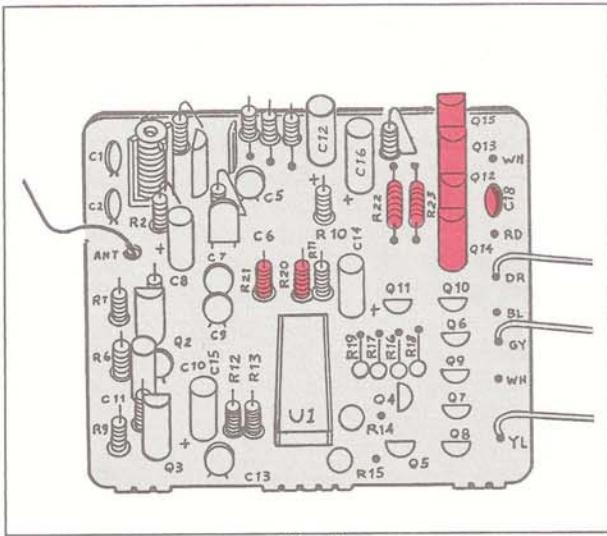

FIG. 78
Refer to Fig. 78 and assemble this stage as follows.
- 8. This completes the construction of this stage. Use Fig. 78 to verify your component placement and solder connections.